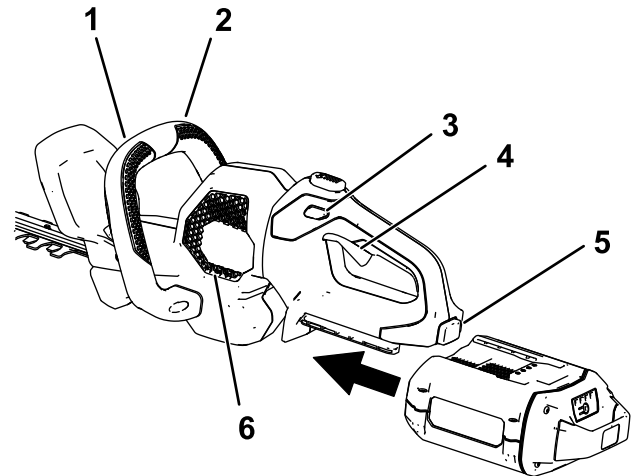

Figure 6
3. Align the cavity of the battery pack with the tongue in the handle housing, grasp the handle, and push the battery pack into the handle until the latch locks into place (Figure 6).
4. Place 1 hand on the trigger handle. Place the other hand on the auxiliary handle (Figure 6).
5. Press the lock switch and then squeeze the trigger switch while engaging the auxiliary-handle switch to turn on the hedge trimmer (Figure 6).
The trimmer stays on as long as the auxiliary-handle switch is engaged and the trigger is squeezed. You may release the lock switch once the hedge trimmer is running (Figure 6).
To shut off the hedge trimmer, release the trigger, auxiliary-handle switch, or both (Figure 6). Allow at least 5 seconds for the cutting blade to stop moving.